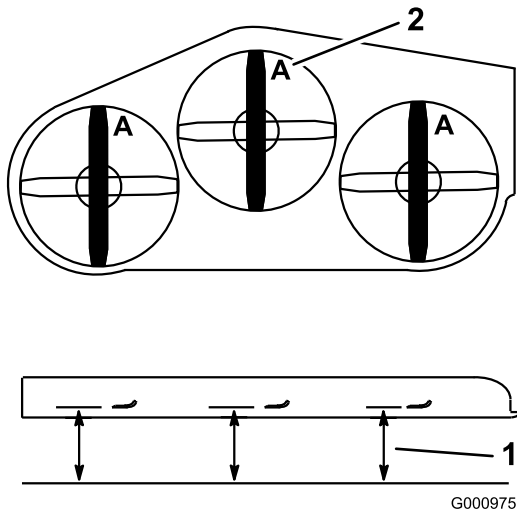

Figure 78
4. Measure from a level surface to the cutting edge, position **A**, of the blades (Figure 78).